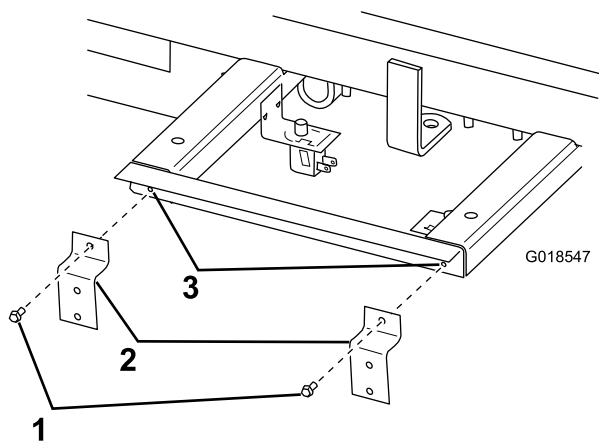

Figure 3
2. Install the mounting brackets to the left side of the machine using self-tapping screws in the existing holes as shown in Figure 3.